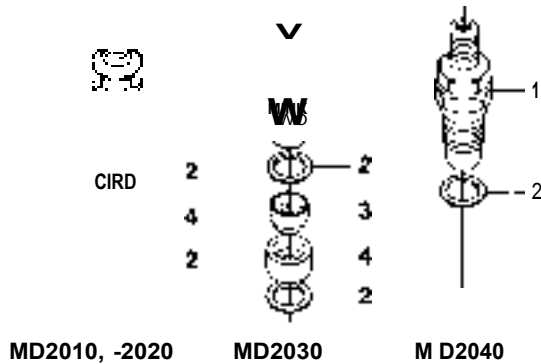

Fig. 34. Fitting of injectors
11. Fit the copper gaskets, heat shields (MD2030) and inserts (MD2010-MD2030) to the injectors as per Fig. 34.